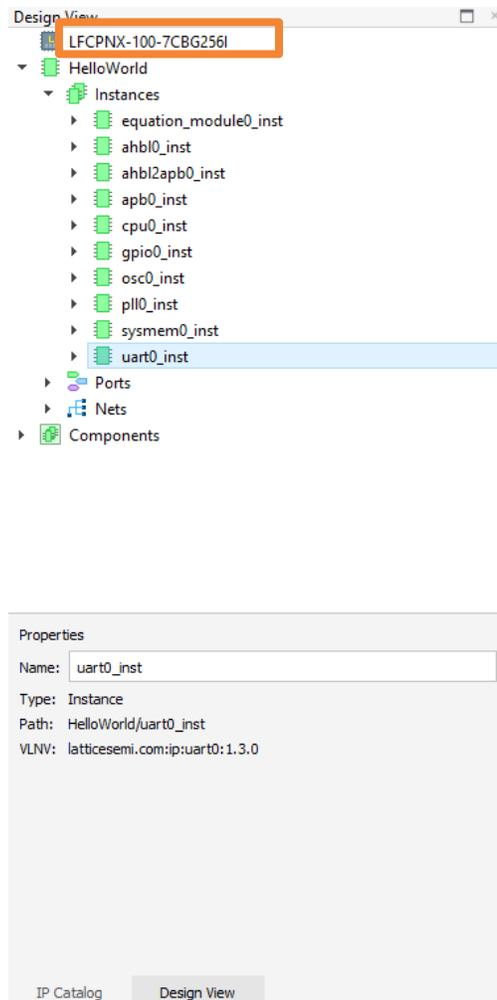

Figure 2.79. Design View of Device Part Number
4. Click **Yes**. By clicking **Yes**, the Builder engine regenerates each IP in the project with the updated device settings. All IPs in current project are configured. The new device part number shows in Design View (Figure 2.79).